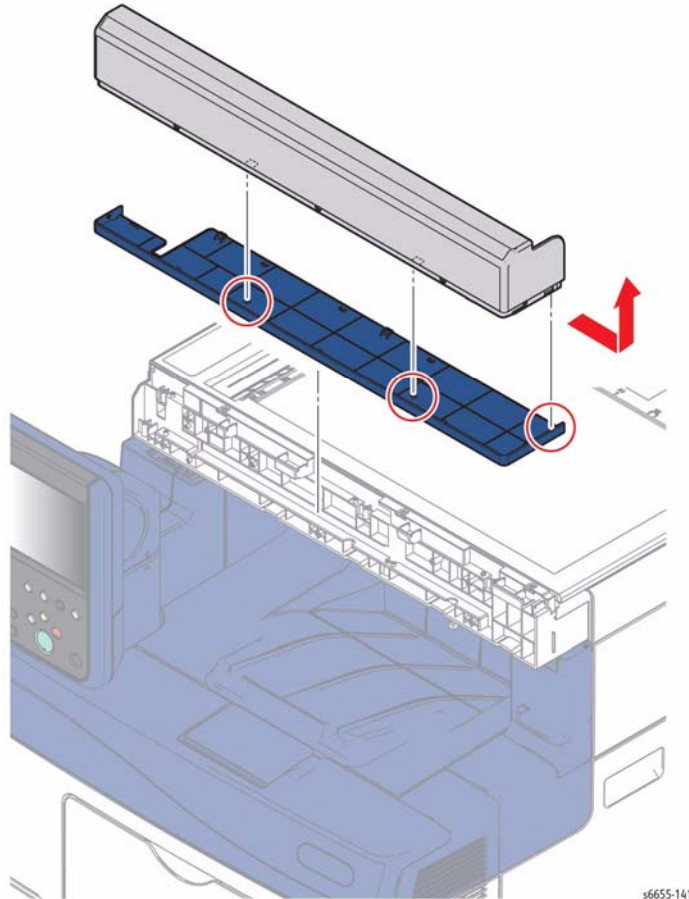

Figure 1 Remove the IIT Front Cover
2. Refer to Figure 1 to locate and detach the left ends of both the Front Cover and Front Bottom Cover from the scanner.